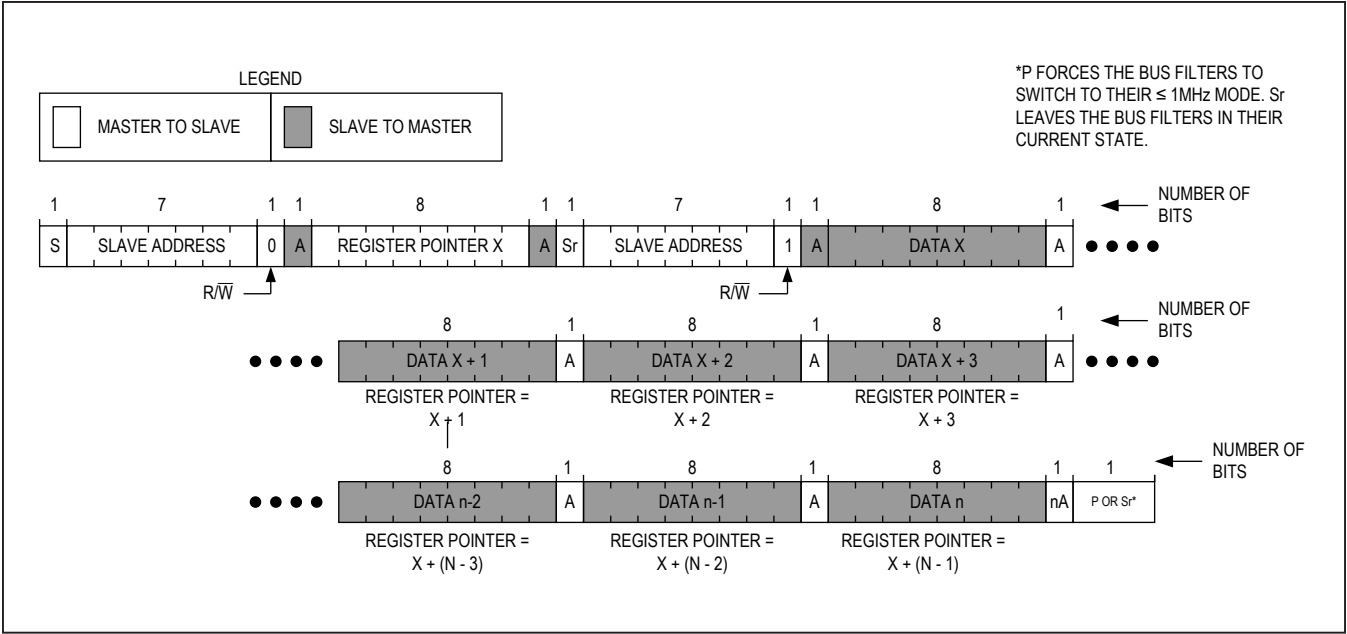

Figure 16. Reading Continuously from Sequential Registers with X to N
Figure 16 shows the protocol for reading from sequential registers. This protocol is similar to the read byte protocol except the master issues an ACKNOWLEDGE (A) to signal the slave that it wants more data. When the master has all the data it requires, it issues a NOT ACKNOWLEDGE (nA) and a STOP (P) to end the transmission. The continuous read from sequential registers protocol is as follows:
- 1) The master sends a START command (S).
- 3) The addressed slave asserts an ACKNOWLEDGE (A) by pulling SDA LOW.